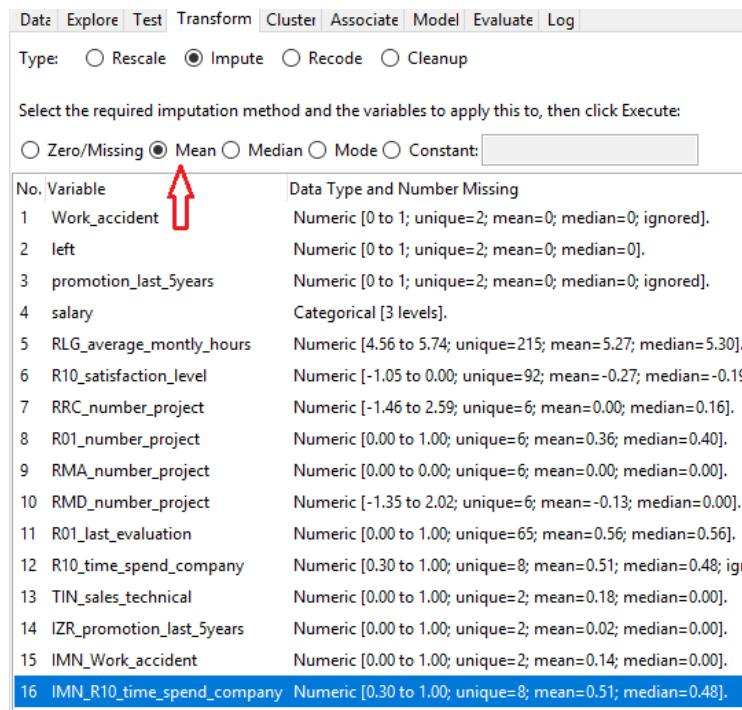

Figure 20
b. Mean, Mode, Median, and Constant: Replace missing values with the population mean, mode, median, and with a specified value or replace the same values with non-missing values (Figure 20).